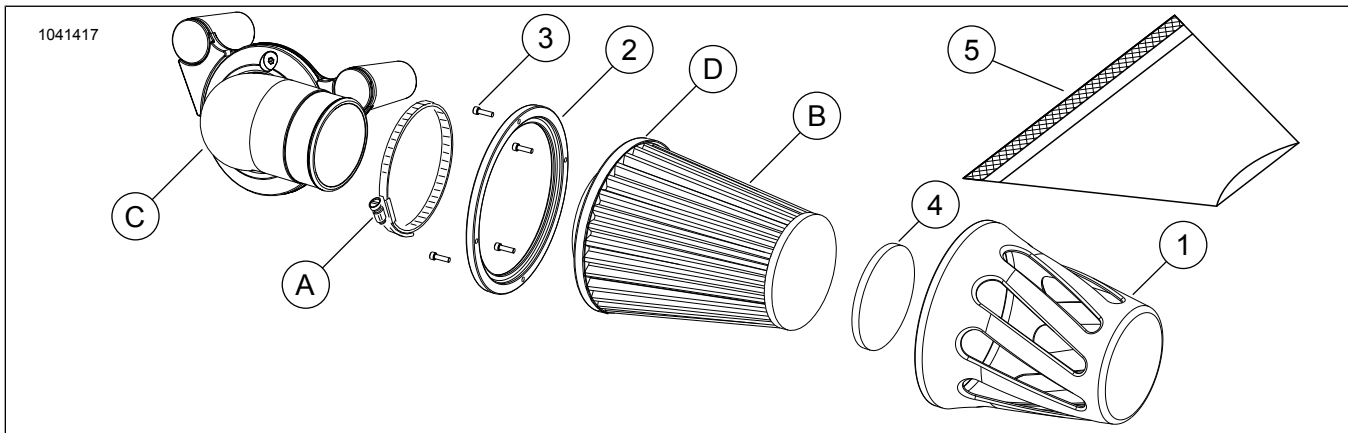

Figure 1. Service Parts: Heavy Breather Decorative Cover (Twisted Slot Shown)
See Figure 1 and Table 1.
3. See Figure 1. Loosen the band clamp (A) and pull the air filter (B) off of the intake tube (C).
1. See Figure 1. Remove the adhesive backing and place the foam circle (4) inside of the small end of the decorative cover.
2. With the filter element removed and cleaned, place the decorative cover (1) over the filter element (B). The band clamp cover (D) must be in place to make sure the decorative cover fits properly.